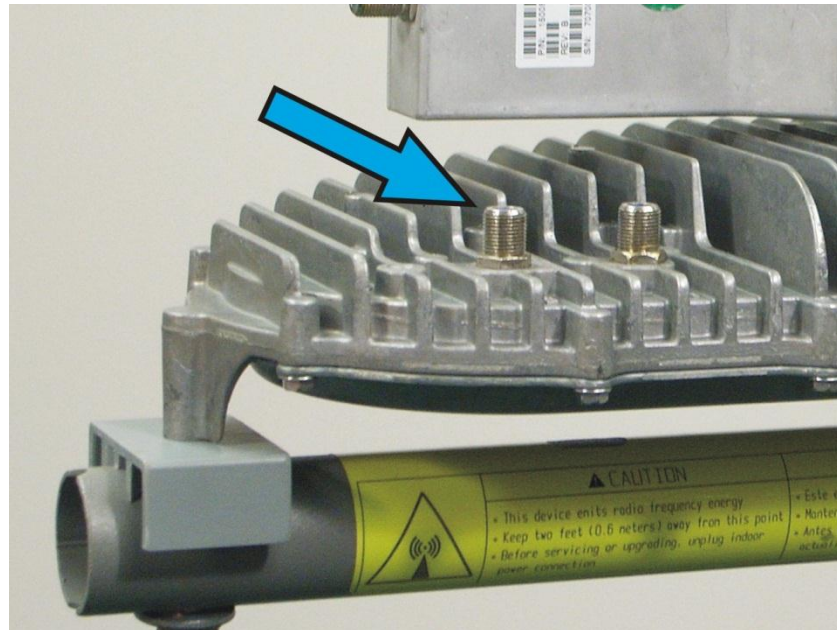

Figure 26: Transmit connector
3. Connect the transmit cable to the transmitter connector marked IFL, shown in Figure 26.